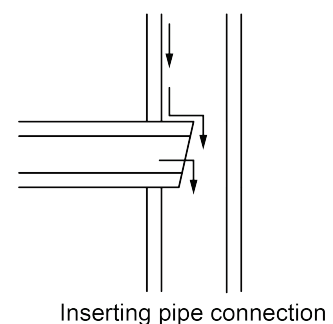

Fig.4.41
- No3: Set into horizontal pipe as show in Fig.4.41.